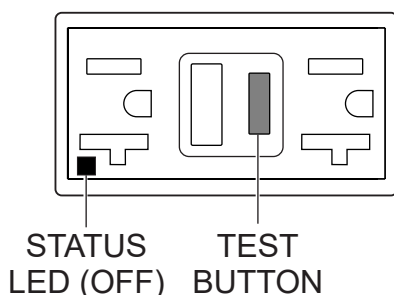

Figure 93. GFCI Receptacle (OFF)
4. Press the **TEST** button (Figure 93) on the GFCI receptacle and verify that the status LED turns **OFF**.